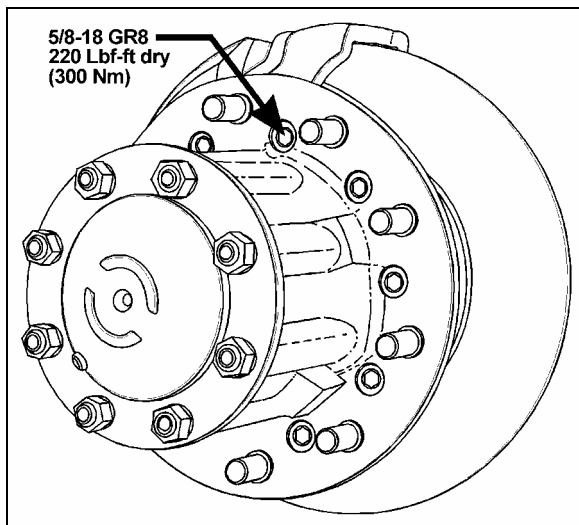

FIGURE 7: TORQUE SPECIFICATION
3. Install wheel mount sensors on front and drive axles (fig. 7). Adjust front axle according to appropriate specifications chart below.
See reference numbers on wheel mount sensors (fig. 7).
- With the system installed as for front axle alignment (fig.7), adjust drive axle according to specifications' chart below.